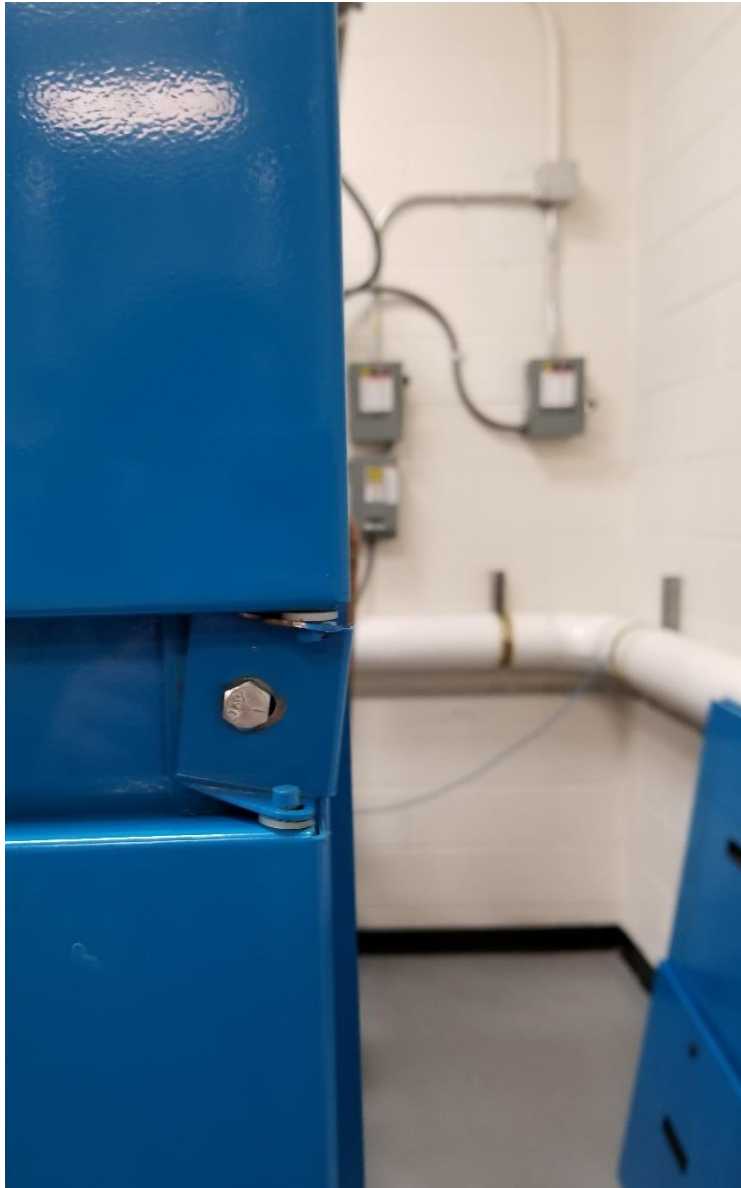

Figure 1
2. Remove front top door by removing 7/16" bolt shown in figure 1. Before removing bolt make sure front bottom door is locked shut. Once top door is removed, tighten bracket to hold bottom front door on.